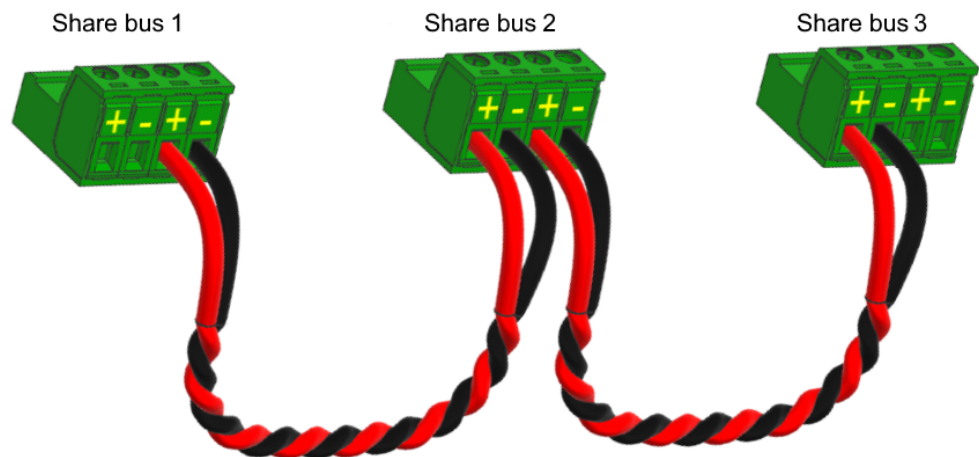

Figure 3-9: Daisy chain connection of share bus port for parallel operation
6. **NOTICE!** Floating output in series connection. Connecting share bus wires during a series connection causes instrument damage. Do not connect share bus wires during a series connection. Share bus is disconnected by default, enable share bus function by enabling the share bus relay on the device. See connection details in Figure 3-9.